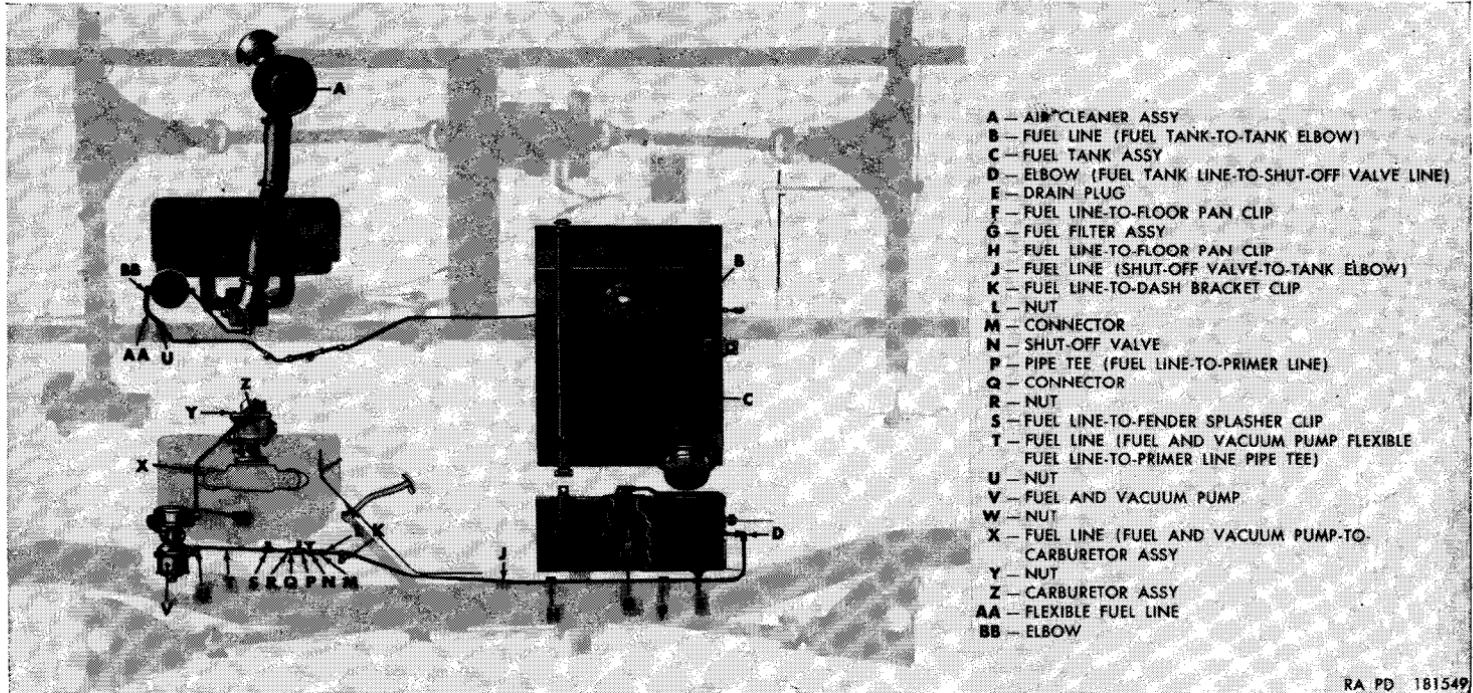

Figure 52. Fuel and air intake system.
- (1) Close the shutoff valve (N, fig. 52).
- (2) Disconnect the fuel line to carburetor at the fuel and vacuum pump by unscrewing the nut on the line from the elbow in the pump. Unscrew the elbow from the pump only if necessary. Disconnect the two vacuum lines from the pump by unscrewing the nuts on the lines from the connectors in the pump. Unscrew the two connectors from the pump only if necessary. Disconnect the vent line by unscrewing the nut on the line from the connector in the elbow. Disconnect the flexible fuel line by unscrewing the nut on the line from the fitting on the flexible line. Unscrew the flexible line from the pump only if necessary.
- (3) Carburetor to fuel pump line being too close to exhaust manifold has caused vapor lock. To avoid this condition, the line should be reversed in position, thus increasing distance between the line and manifold.
- (4) Open the shutoff valve (N, fig. 52).
Note. The key letters noted in parentheses are in figure 52, except where otherwise indicated.
- (1) Remove the drain plug (E, fig. 52) from the bottom of the tank and drain the fuel into a suitable container.
- (2) Remove the driver's seat (par. 268).
- (3) Remove the fuel tank level sending unit assembly (par. 189).
- (4) Remove the fuel filter assembly (par. 133a).
- (5) Bend up the clip on the vent line and swing the line up and out toward the left side of the vehicle.
- (6) Bend up the clip on the fuel line. Loosen the nut connecting the line to the elbow (D, fig. 52). Swing the line at the top of the tank toward the right rear of the vehicle to clear the top of the tank.
- (7) Remove the fuel tank filler cap with chain assembly by turning the cap counterclockwise and unhooking the chain from inside the fuel tank filler neck.
- (8) Remove the bolt, lockwasher, and hold-down clamps at the rear of the tank. Remove the bolt and nut from the end clamp and the hold-down strap with antisqueak and swing the strap up toward the right side of the vehicle.
- (9) Slide the tank to the right until the filler neck has cleared the grommet in the filler neck opening in the side of the body and remove the tank. Remove the five fuel tank antisqueaks and one end clamp antisqueak. These will stick on the tank, the vehicle body, or the end clamp.
- (2) Install the hold-down clamp at the rear of the tank, and secure in place with $\frac{5}{16}$ -18 x $\frac{7}{8}$ bolt and lockwasher. Place the hold-down strap in position on the top of the tank over the antisqueak, install the bolt through the end clamp and the hold-down strap, and screw the nut onto the bolt.
- (3) Install the fuel tank level sending unit assembly (par. 189).
- (4) Install a new fuel filter element (par. 134) and the fuel filter assembly (par. 133).
- (5) Connect the vent line to the fuel filter by screwing the nut on the end of the line into the fitting on the filter. Bend the clip on the tank over the line. Connect the fuel line to the fuel filter by screwing the nut on the end of the line into the filter. Bend the clip on the tank over the line. Connect the fuel line to the elbow (D, fig. 52) by tightening the nut on the end of the line.
- (6) Install the drain plug ($\frac{1}{4}$ -in. pipe plug) (E, fig. 52) in the bottom of the tank. Install the fuel tank filler cap with chain assembly by hooking the chain into the loop inside the filler neck. Fill the tank with fuel and install filler cap on fuel tank turning clockwise to lock cap on tank.
- (7) Start the engine and make sure there are no leaks at fuel line connections. Check the fuel gage for proper operation of the fuel tank level sending unit.
- (8) Install the driver's seat (par. 268).